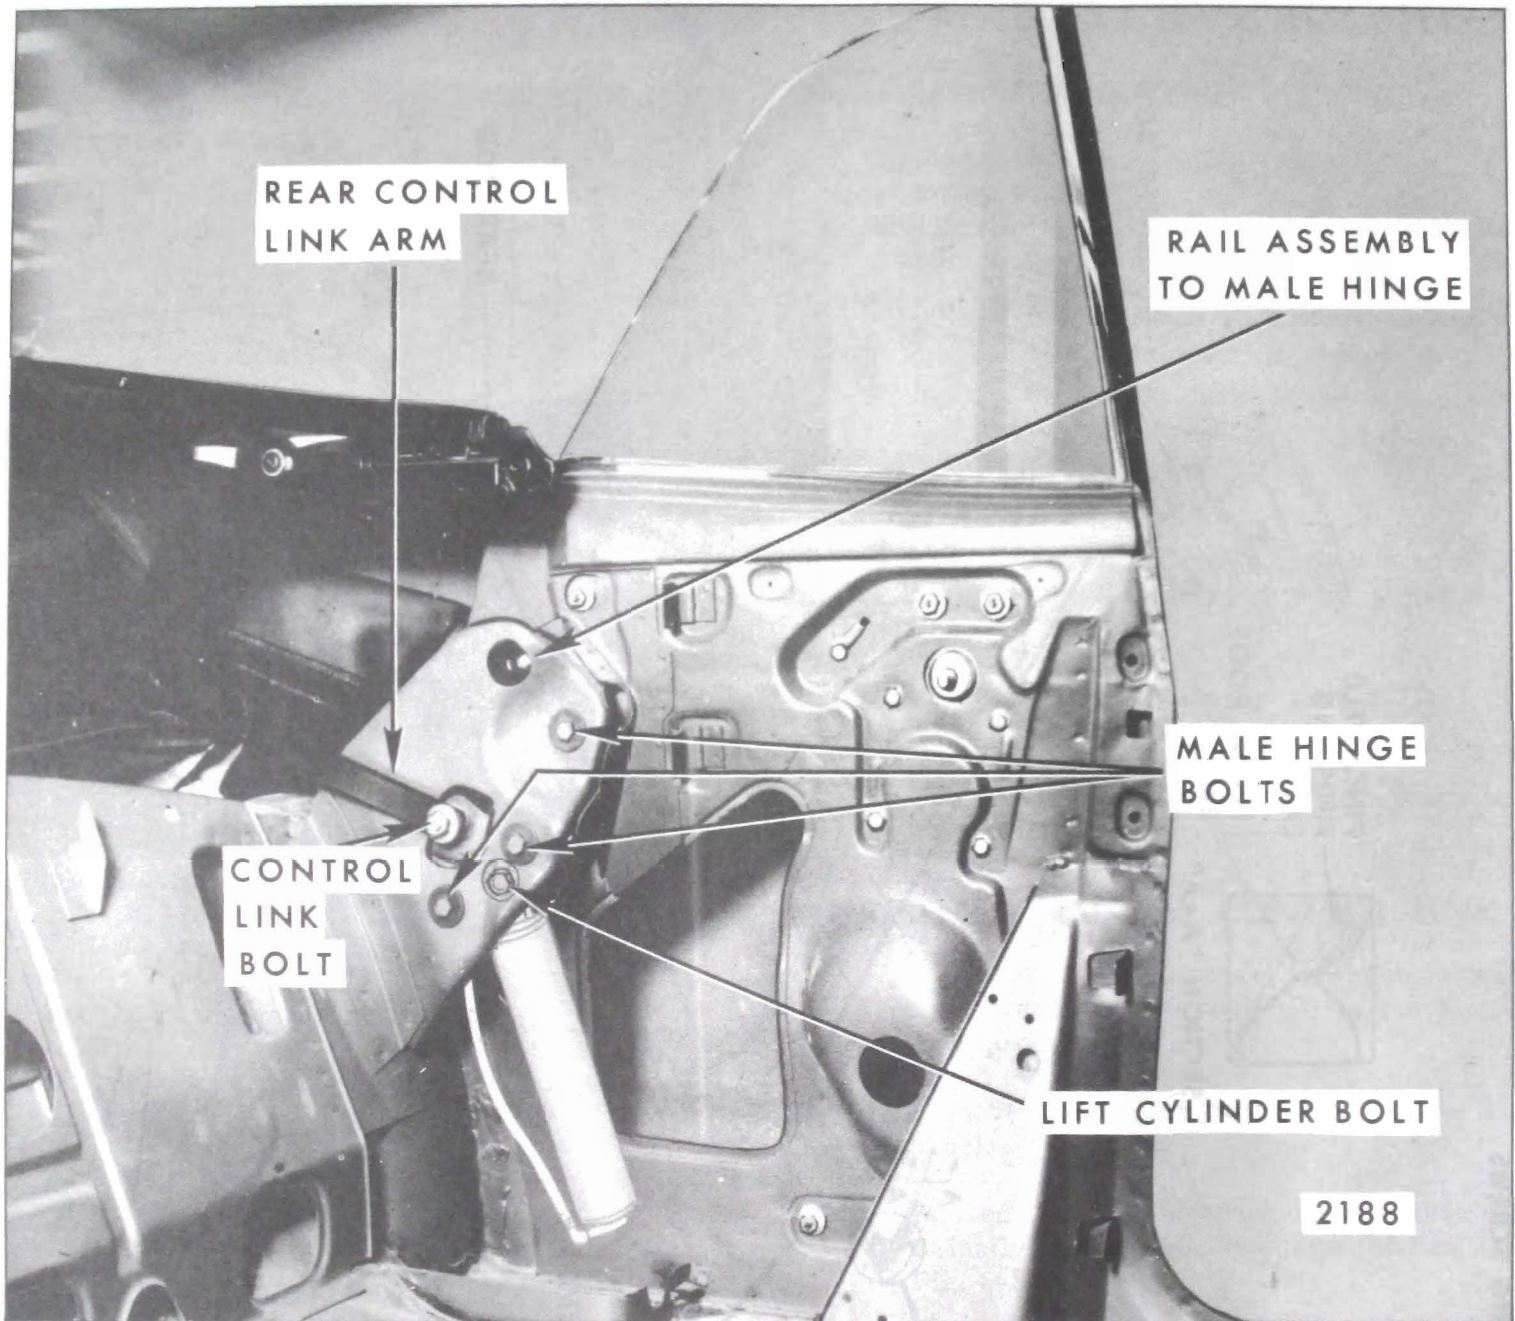

Fig. 6-81—"A" Body Convertible Top Linkage Attachments
- b. Loosen one bolt securing control link sufficiently to permit adjustment of link (See Fig. 6-81).
- b. Loosen male hinge assembly (Fig. 6-81).
- b. Loosen male hinge assembly (see Fig. 6-81).
- c. Rotate male hinge forward to lower stack height or rearward to raise stack height (Fig. 6-81).
NOTE: When rotating male hinge be certain position of rear rail to male hinge is maintained (Fig. 6-81).
2. Male hinge assembly misaligned.	Adjust male hinge assembly rearward. (Fig. 6-81).
2. Male hinge assembly misaligned.	Adjust male hinge assembly forward. (Fig. 6-81).